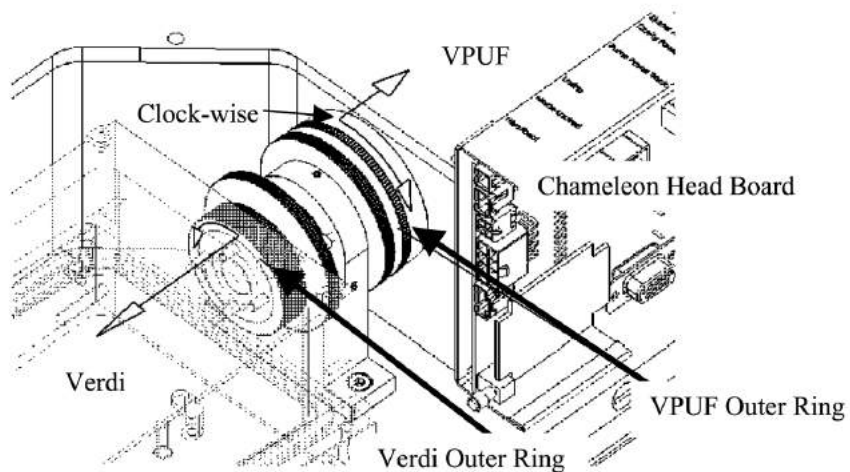

Figure 5.12-1. Loosening the IBS “Outer” Rings
3. Before touching the hardware securing the IBS, loosen the knurled outer ring sitting against the VPUF cavity clockwise when facing the VPUF (see Figure 5.12-1).
4. Loosen the knurled outer ring sitting against the Verdi pump clockwise when facing the front of the Verdi head (see Figure 5.12-1), the rotation of the rings should oppose.
4. Tighten the knurled outer ring sitting against the Verdi pump counter-clockwise when facing the front of the Verdi head (see Figure 5.12-1), stop once the ring is snug.
5. Tighten the knurled outer ring sitting against the VPUF cavity counter-clockwise when facing the VPUF (see Figure 5.12-1), again stop once the ring is snug.